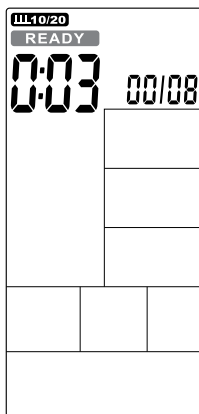

Fig. 5
*A countdown counts from 3 to 0 and READY flashes once per second. The WORK sequence starts afterwards (Fig. 5 & 6).*